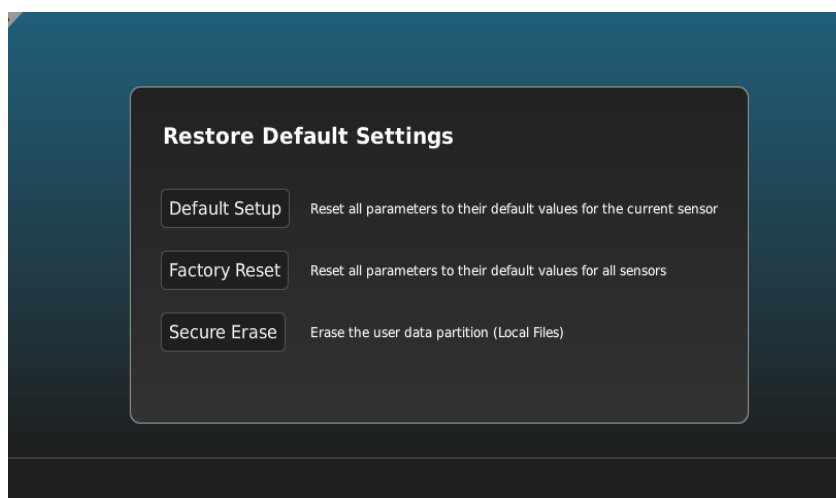

Figure 4-40. Restore Default Settings
2. In the Restore Default Settings dialog, press the button for the needed reset type. Refer to Figure 4-40. The reset is immediate, without confirmation.